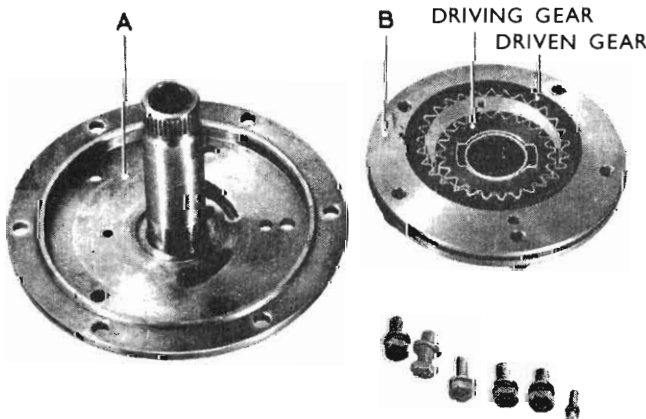

Fig. 36 - Reaction shaft and pump adaptor components
- (1) Remove 5 bolts and spring washers and 1 screw and lock washer.
- (2) Separate pump body and gears from converter support assembly (using wood block if necessary).
- (3) Remove the pump body and converter support gasket and O-ring (refer Fig. 36).
- (4) Remove pump drive gear assembly from housing, *making sure that the outside faces of gears are marked* to retain the original position.
- (5) Remove O-ring from the body. (Oil suction (large) tube.)
- (6) Remove the oil seal from body (may be done at disassembly). Using Tool E21C35G where required.
- (7) Inspect the reaction shaft bushing for wear or damage. Reassemble by reversing the foregoing procedures after cleaning and inspection. Install new oil seal using Tool E21C35F.